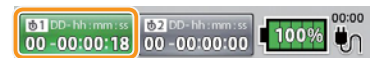

Figure 2-18
2. Tap the count up timer indicator again. (Figure 2-18)